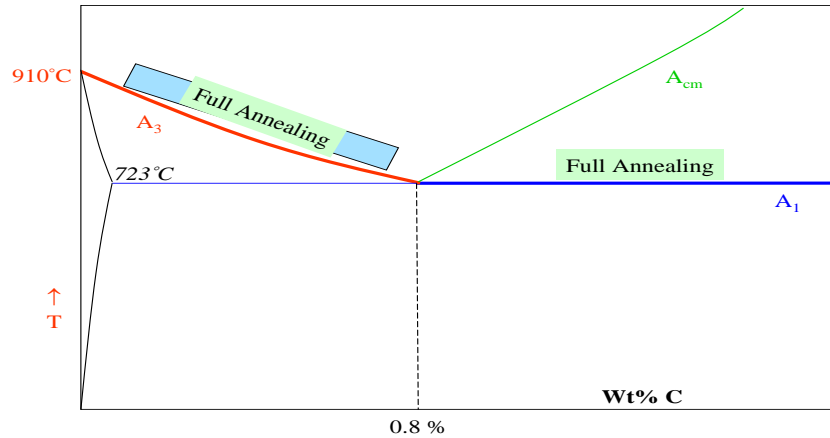

Fig. 3. Shows full annealing
- ✓ The range of temperatures used is given in the figure 3 bellows.